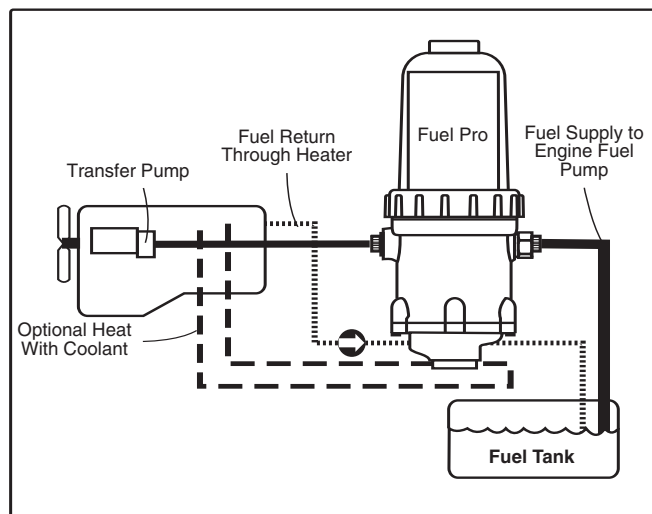

Figure 1 - Fuel Pro Connections
Step 5 - Route the fuel supply line from the fuel tank to the Fuel Pro inlet (Figure 1). Route a fuel line from the Fuel Pro outlet to the fuel pump inlet.
To use engine coolant as the Fuel Pro heating fluid, connect a hose (Braided #6 or #8 hose) from the high pressure side of the engine coolant system to the Fuel Pro Heater Base (see Figure 1). Either heater port will work as an inlet. Route another hose from the Heater Base to a low pressure port in the coolant system. **DO NOT** route into the cab heater system.